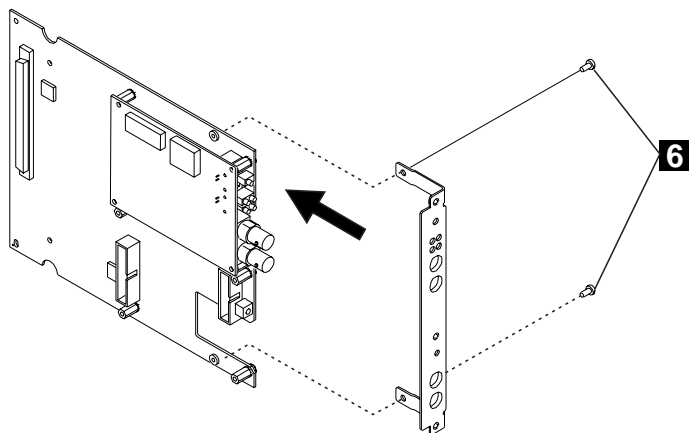

Figure 13. Attaching the Faceplate Bracket
- 6 Attach the faceplate bracket to the motherboard using the two screws (6 in Figure 13) from the old dummy bracket.